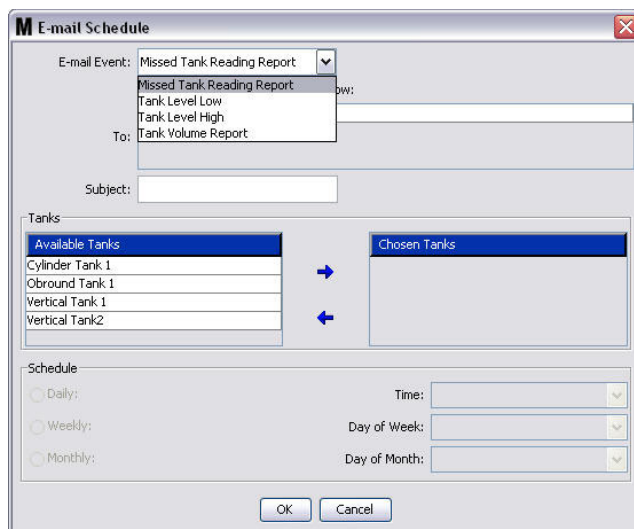

FIG. 141
1. Click the New Schedule button to display the E-mail Schedule setup screen shown in FIG. 141.
2. The E-Mail Schedule screen shown in FIG. 141 on page 107 displays. When you have finished making changes, click OK button to close the screen and save the changes.